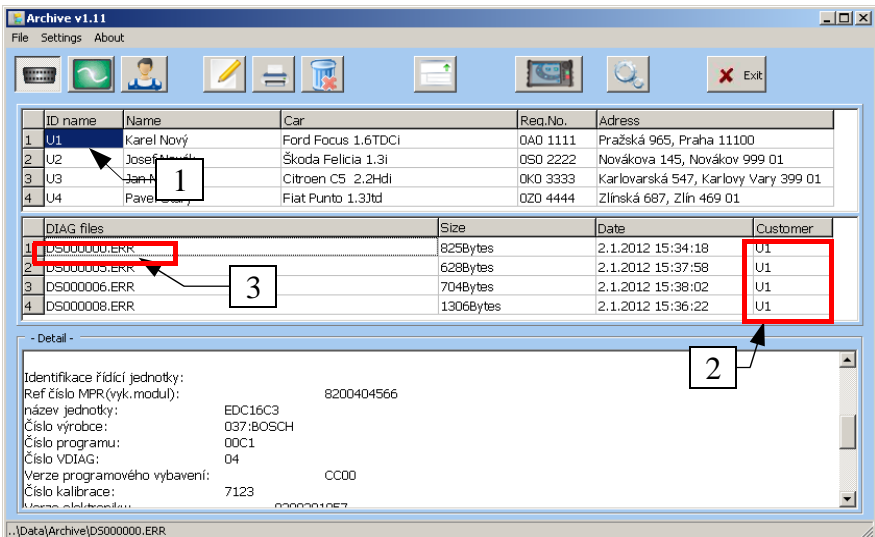

Figure 8.5
If you want to work with the database of your customers, click on the third icon from left (3). The window is divided into three parts (Figure 8.5). There is a list of customers in the first part (1), containing their ID, name, vehicle type, license plate and address. In the second part (2) you can find the list of records from oscilloscope or diagnosis database (the type of the selected database is highlighted (Figure 8.5)) assigned to a selected customer. The third part of the window (3) shows the content of the record selected in the second window. The items in this third window can be also sorted in the same manner as the oscilloscope and diagnosis files.